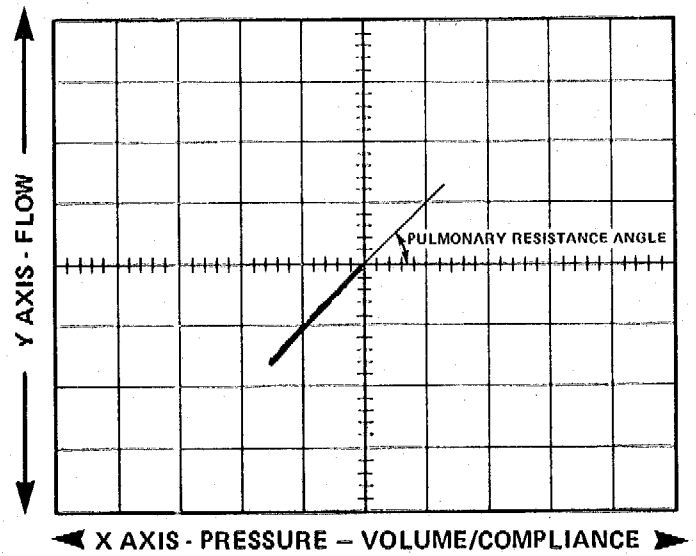

Figure 40 - Measurement of Pulmonary Resistance Angle
- i. Refer to Figure 40. Using the graticule, record the pulmonary resistance angle for calculations. Photograph the trace if desired. As with dynamic compliance, it is usual to note lung volume and peak flow rate.